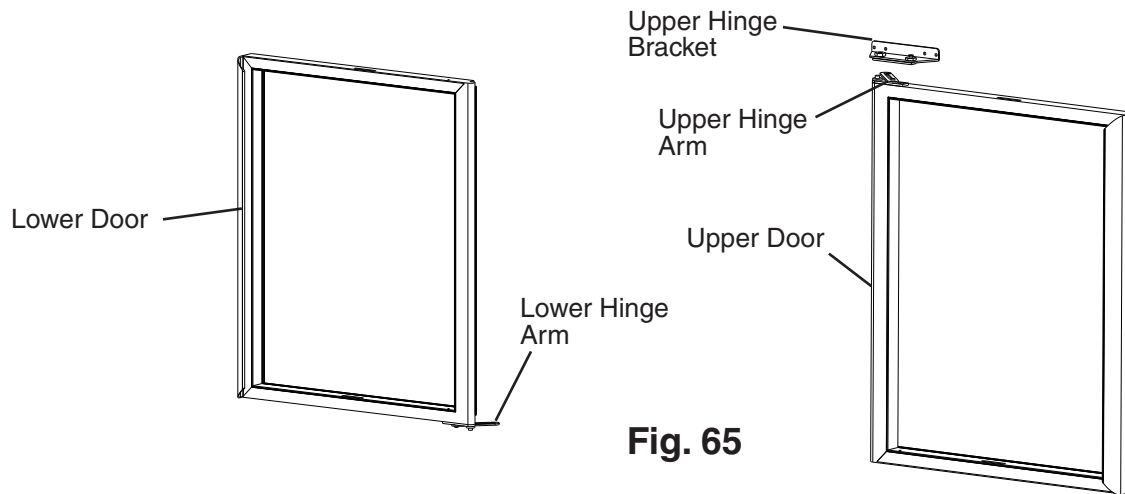

Fig. 65
18) Rotate the lower door (making it the upper door) 180 degrees. Rotate the lower hinge bracket 180 degrees. Confirm the thrust washer is in place on the door, then place the new upper hinge bracket onto the upper door pin. See Fig. 65.